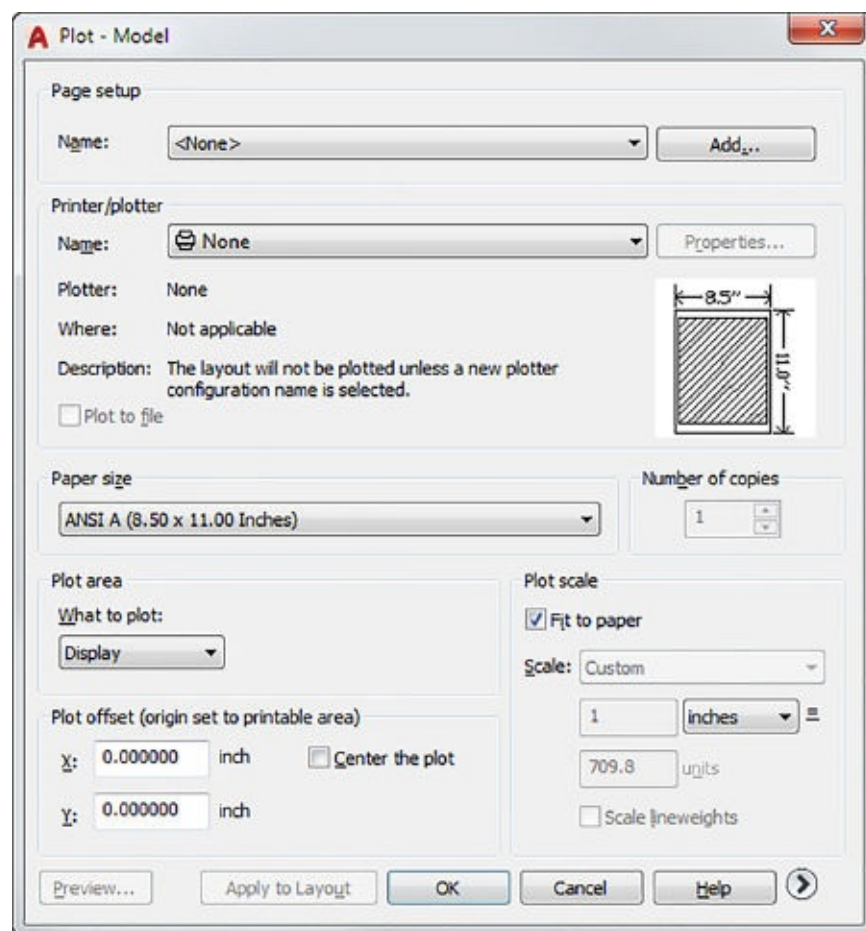

FIGURE 8.1 The Plot dialog box
4. Click the Plot tool from the Quick Access toolbar. You may see a message asking if you want to use the Batch Plot feature. Select Continue to plot a single sheet to open the Plot dialog box (see Figure 8.1). If your dialog box looks like it has more information than what is shown in Figure 8.1, don't worry—you'll learn about the expanded portion of the dialog box in the next exercise.